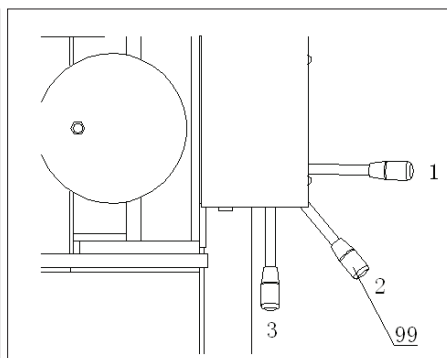

Fig.13
• 3 positions for the handle lever of selector valve: When it is in position 1, the piston rod is retracting; When it is in position 2, the piston rod is stopping moving; When it is in position 3, the piston rod is extending. Fig.13
• Turn the handle lever (99) to position 3, then depress the air foot valve (P54), and the piston rod will extend quickly. Warning: NEVER operate manually (Manual Low Pressure) simultaneously.
• Release the pressure: turn the handle lever (99) to position 2, the pressure on the piston rod will release automatically.
• Retraction of piston rod: turn the handle lever (99) to position 1, operate by air or manual. NEVER operate manually (Manual Low Pressure) at the same time.